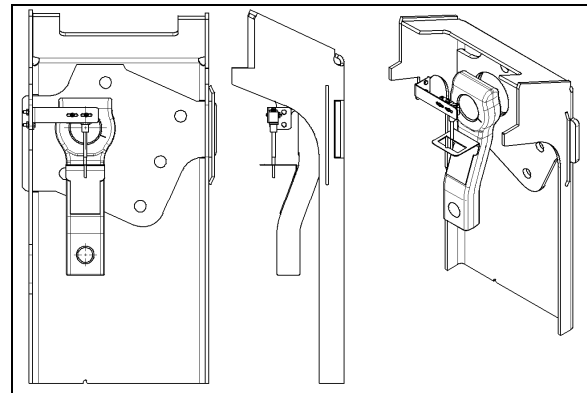

FIGURE 21: TAG AXLE UNLOADING SWITCH ADJUSTMENT 14061
2. Line up switch lever with reference to the bracket center (Refer to Figure 21).